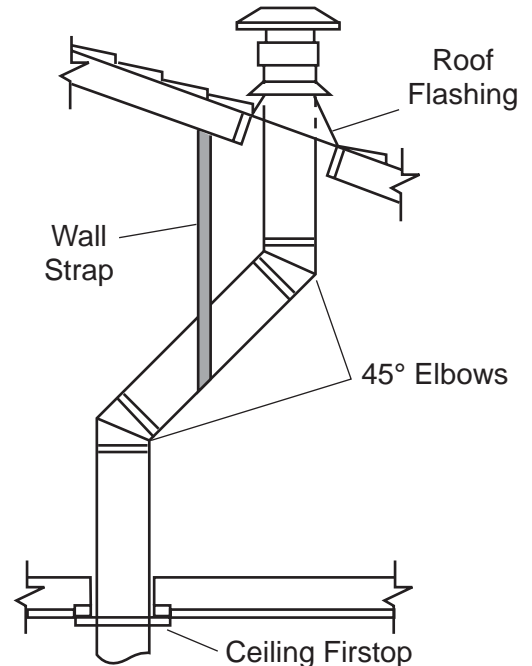

Figure 20 - Offset with Wall Strap and 45° Elbows
1. Determine the route your vertical venting will take. If ceiling joist, roof rafters or other framing will obstruct the venting system, consider an offset. See Figure 20 to avoid cutting load bearing members.